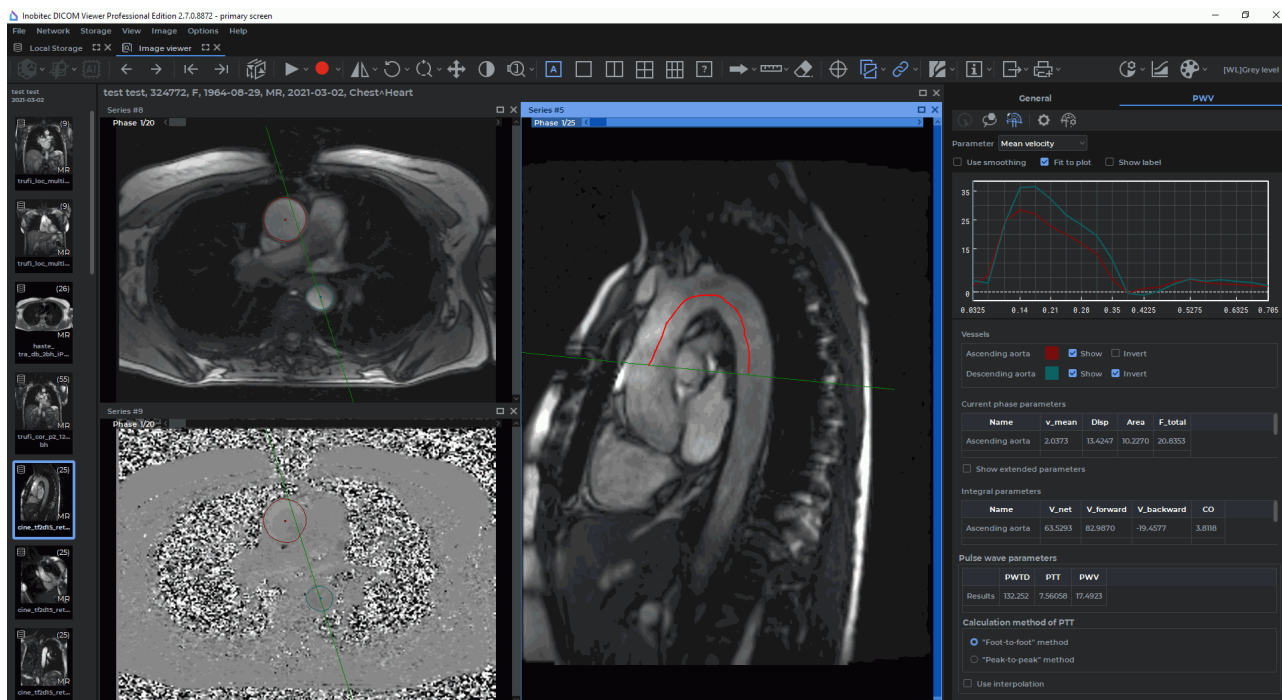

Figure 2.52: Designing a Pulse Wave Trajectory
- Press and hold the mouse button to build the trajectory. Release the button to finish the process. The trajectory must connect the two different slices of the vessel (Fig. 2.52). The pulse wave trajectory is smoothed to fend off aliasing which causes lengthening of the curve.